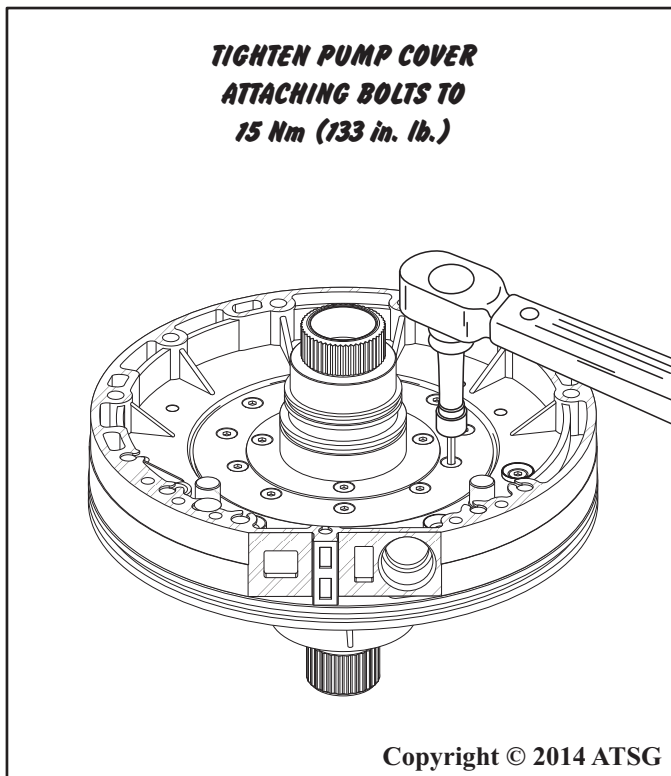

Figure 67
17. Tighten the pump cover attaching bolts in a cross-wise pattern and finish by tightening each bolt to a torque of 15 Nm (133 in. lb.) as shown in Figure 67.